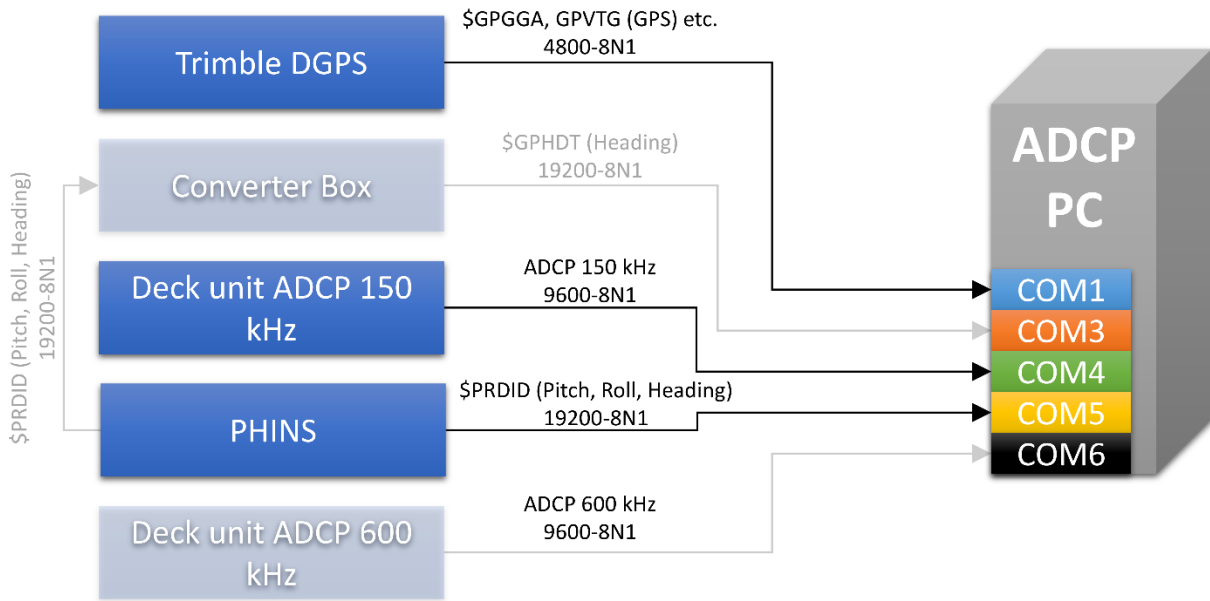
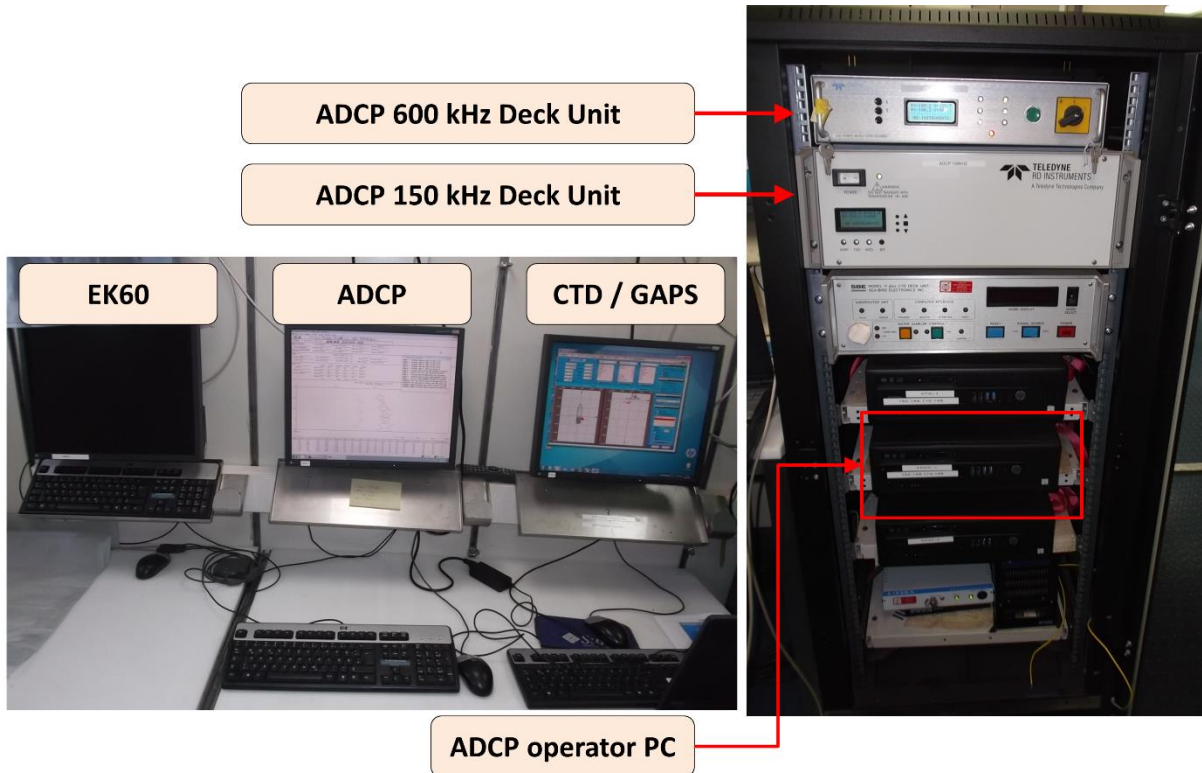

Figure 1: Wiring diagram
Figure 2: Photo showing the system in the lab
Table 1 and Figure 1 show the sensor structure of the Teledyne RDI Ocean Surveyor 150 kHz ADCP hardware and Figure 2 shows the installation in the laboratory. The 150 kHz transducer is hull mounted. The deck units of both ADCPs (Teledyne RDI Ocean Surveyor 150 kHz and Teledyne RDI Workhorse Mariner 600 kHz) are permanently installed in the server rack next to the operator PC. The operator PC receives data from one ADCP deck unit at a time (no parallel operation!), position information from the Trimble DGPS receiver, as well as attitude data (heading) from the IXSea PHINS III Inertial navigation system (INS). Recorded data should be regularly copied to the network shares of the XDC storage server.
1. Power up the ADCP operator PC (Figure 2, right)
2. Power up the deck unit in the server rack (Figure 2, right)